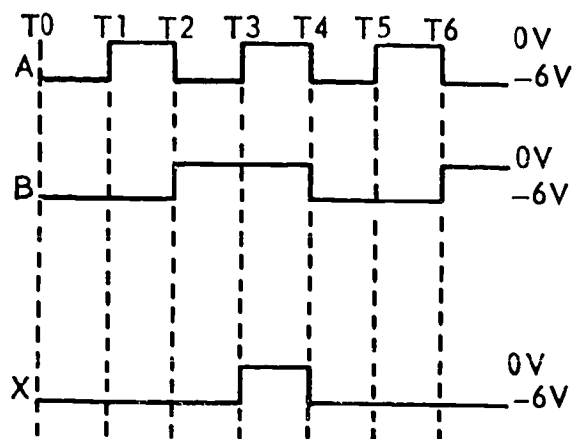
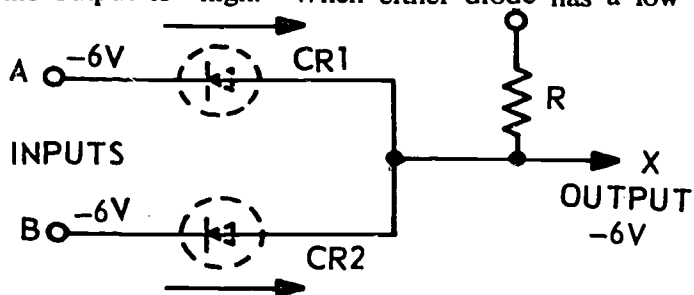

Figure 1-11. AND-gate waveforms.
Figure 1-12. AND-gate with both diodes conducting.
Time T0 to T1 in figure 1-11 shows a -6 volts being applied to both diode inputs. Both diodes are conducting heavily and the output is -6 volts (low). Figure 1-12 shows the equivalent circuit with the
diodes shorted. Times T1 and T2, figure 1-11, show one input at 0 volt (high) and the other at -6 volts (low). CR2 is forward biased and conducts heavily, clamping the output and the anode of CR1 to -6 volts. CR1 is reverse biased and does not conduct. Figure 1-13 shows the equivalent circuit with CR2 shorted. The -6 volt (low) output is identified as no output.
(1) In figure 1-12 when both diodes have a -6V input (L), the output is -6V (L).